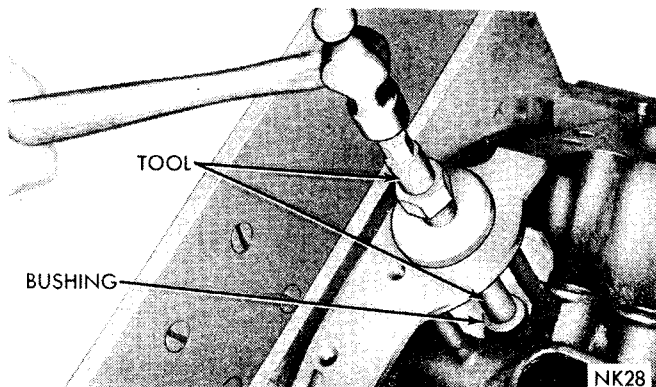

Fig. 31—Installing Distributor Drive Shaft Bushing
(1) Slide new bushing over burnishing end of Tool C-3053 and insert the tool and bushing into the bore.
(2) Drive bushing and tool into position, using a hammer (Fig. 31).